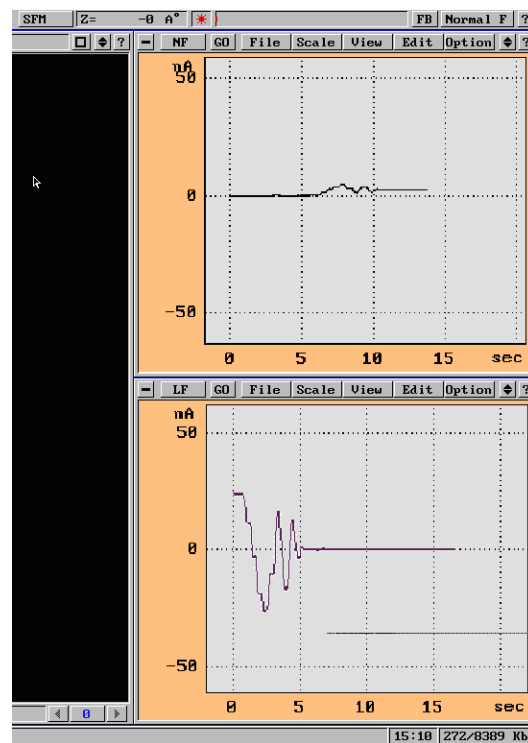

Fig. 148
Rotate the screw (6) to set signal value in the window "LF" equal to zero (Fig. 148). Check the signal value by slight rotation of the screw for indication of positive and negative values. When both "NF" and "LF" signals are equal to zero and adjustments produce positive and negative values, the spot is in the center of photodiode. Now set some negative signal value in the window "LF" by the screw (6). The value should be a few times less than the saturation signal. So if you can reach